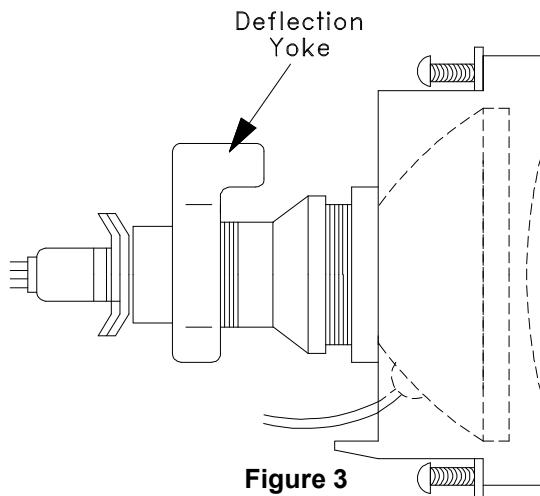

Figure 3
8. Remove the Deflection Yoke from the neck of the CRT. [Figure 3]
2. Install the Deflection Yoke on the CRT neck. [Figure 3]